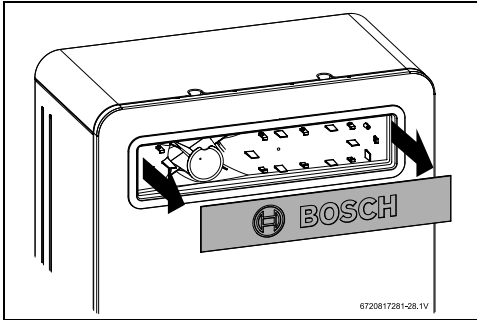

Fig. 49 Remove protection
- ▶ Remove the protection from the front cover, see fig. 49.